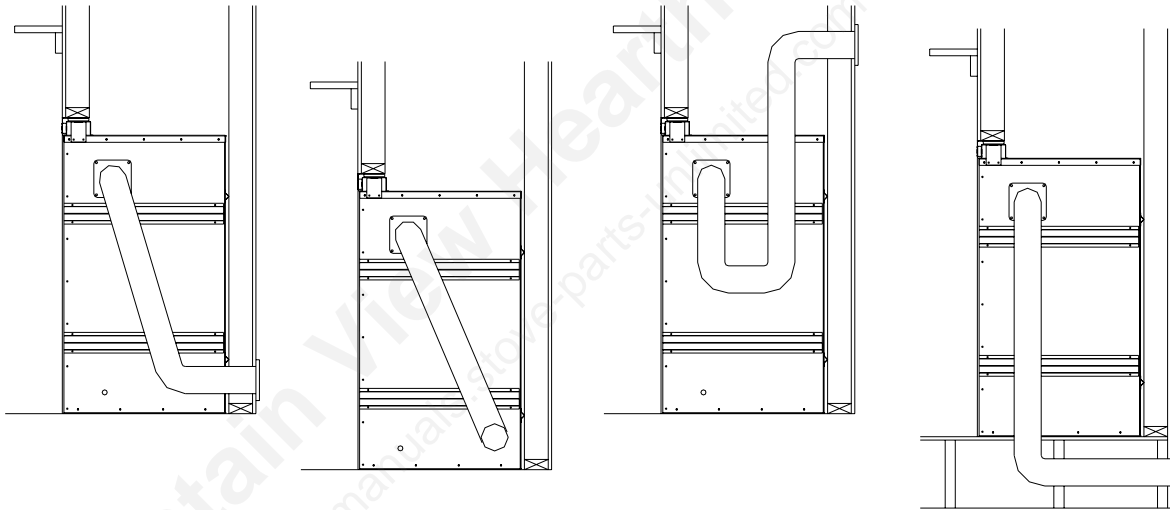

FIGURE 19: OUTSIDE AIR KIT INSTALLATION METHODS
The fresh outside air duct system must be installed according to the following requirements, See Figure 19 for example installations:
A minimum of a four (4) inch hole is to be made in the outside wall of the house at the specified location for the fresh air outside air duct. From outside the home place the fresh outside air duct register in the hole (open side down) and fasten the register to the wall with screws provided. Slip the duct pipe into the insulated sleeve. Place the insulated pipe over the register tube and over the fireplaces outside air connector. Figure 19 shows multiple outside air kit installation possibilities. Galvanized pipe can be used for the outside air tubing but AES recommends insulated pipe. Insulated pipe will reduce, if not eliminate, the chances of water condensate as cold air is brought into a warm air (living space.) Carefully pull back the insulation and plastic cover at each end exposing the flexible pipe. Using aluminum tape, wrap the tape around the joint between the flexible pipe and the air inlets. Carefully push the insulation and plastic cover back over the pipe. Using aluminum tape, fasten the plastic cover in place.